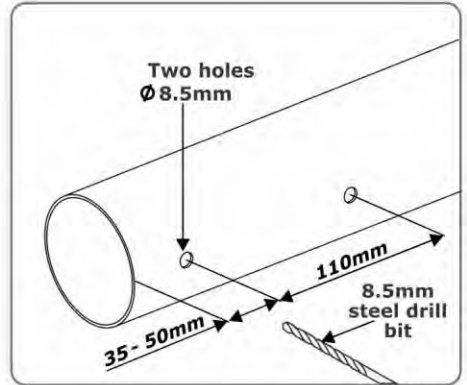

FIGURE 6
3. On the inner pole (pole that is mounted onto the barrier housing), mark two holes following measurements as shown in Figure 6.